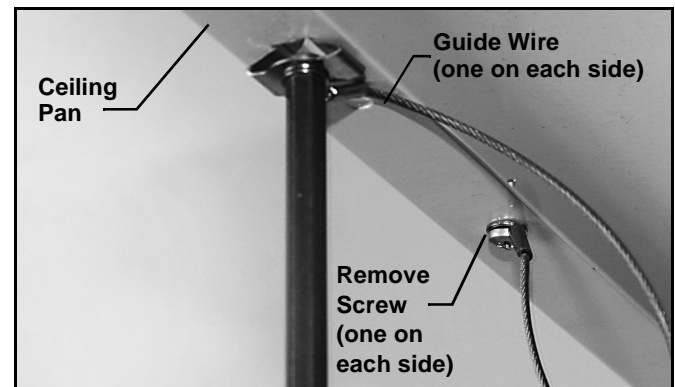

Figure 4
1. Remove and save screws attaching guide wires to ceiling pan. (See Figure 4)